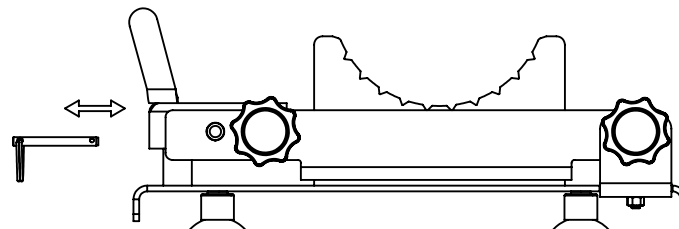

Figure 2
- Before you start using your equipment, remove the safety pin, reinsert it when you are finished using it, and leave the machine in a safe position.(Figure 2)
Warning: Keep the safety pin attached and the handle in the position in Figure 2 when you don't use your product in order to prevent injuries that may occur as a result of accidental falling of the blades.